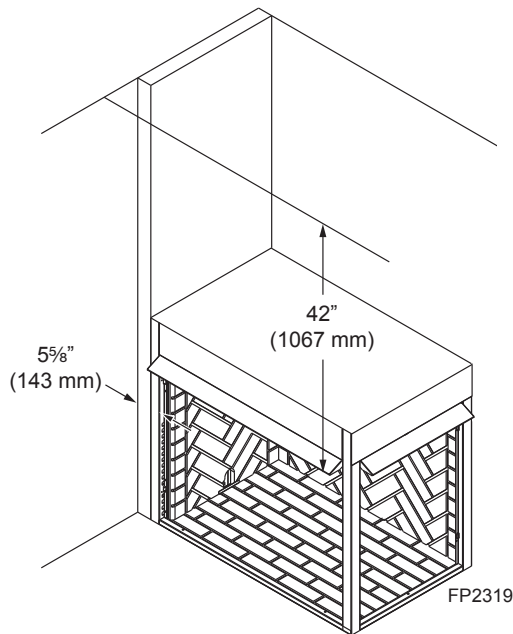

Figure 3 - Sidewall and Ceiling Clearances
Ensure that minimum clearances shown in *Figures 3 through 7* are maintained. Left and right clearances are determined when facing the front of the firebox.
1. **Sidewall Clearances** — The clearance from the inside of the appliance to any combustible adjacent wall should not be less than 5⁵/₁₆". Refer to *Figure 3*.
2. **Ceiling Clearance** — The ceiling must be at least 42" from the top of the firebox opening (bottom of hood). Refer to *Figure 3*.